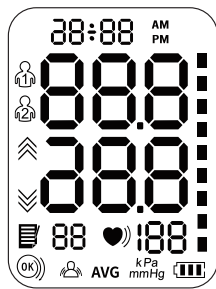

Fig. 2
4. Press and release the **POWER** button to turn the unit on; the unit will briefly flash a self-test, Fig 2.